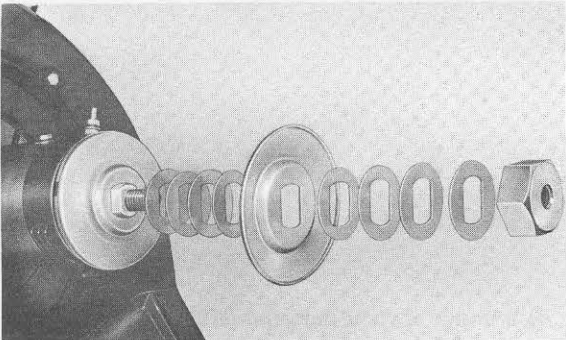

Fig. 72
3. Arrange spacers between pulley halves as needed. The belt tension should be so adjusted, by adding or removing spacers between the two pulley halves, that the belt will yield by about 15-20 mm (5/8 - 3/4") under light thumb pressure. Removal of spacers increases the belt tension, addition of spacers decreases the tension (see Fig. 72). If the belt has stretched or worn to such extent that only one spacer remains between the pulleys at correct belt tension, it should be replaced since the con-